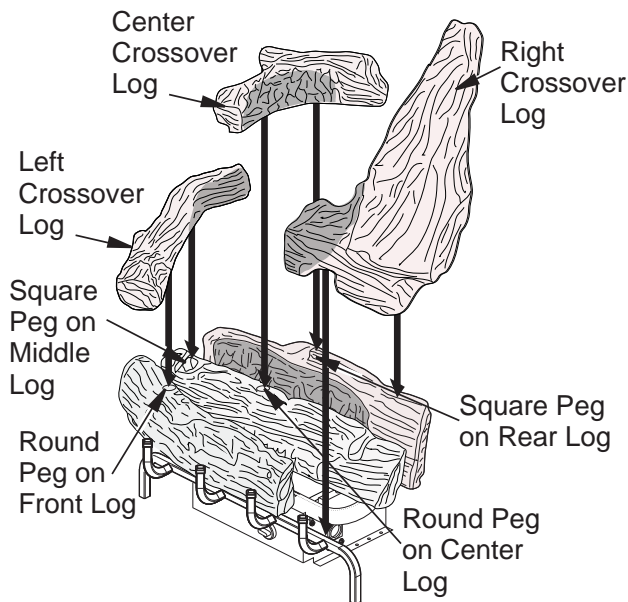

Figure 20 - Installing Left, Center and Right Crossover Logs
4. Place left crossover log as shown in **Figure 20, Page 18**. Match square peg on top of center log with square hole on bottom of left crossover log. Match pin on top of front log with round hole on bottom of left crossover log.
5. Place center crossover log as shown in **Figure 20, Page 18**. Match square peg on top of rear log with square hole on bottom of center crossover log. Match pin on top of center log with round hole on bottom of center crossover log.
6. Place left front crossover log as shown in **Figure 20, Page 18**. Log should rest on the grate and fit into recess area on the center log.